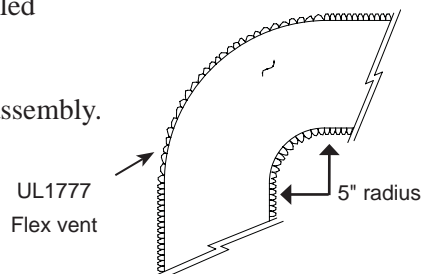

Figure 2 —
3. Do not allow the flexible vent to bend in radius tighter than 5" (127mm). Refer to *Figure 2*.